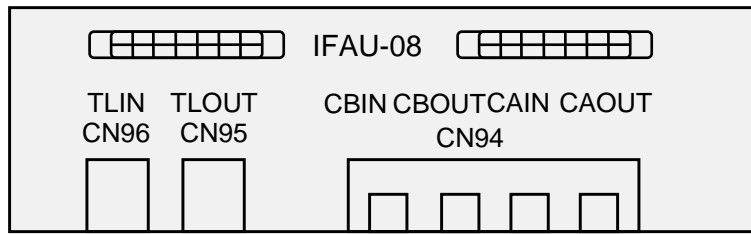

Figure 3-11 Parallel I/F PCB IFAU-08 (100-225kVA)
- b) **IFAU-09 (300-750kVA)****For use in Parallel Operation system application (Option - Figure 3-11 and Figure 3-12)**